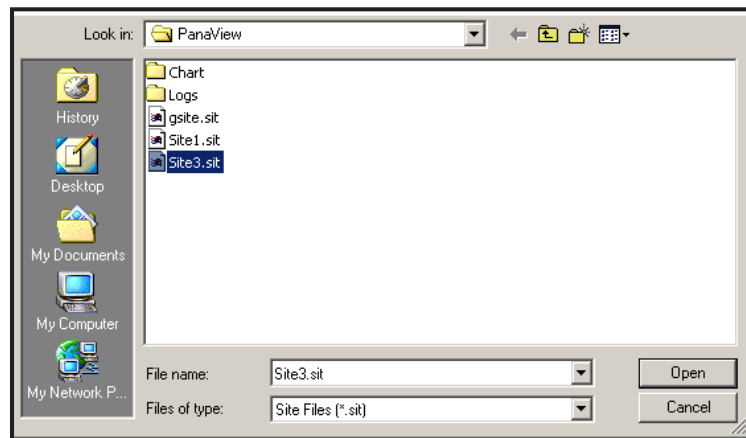
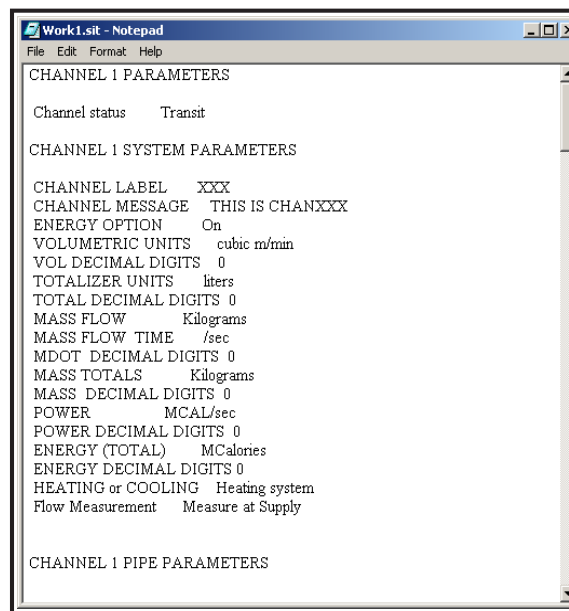

Figure 49: Site File Selection
Figure 51: Printout of Site File
- Then click on the [Save Site to Meter] button. A screen opens similar to Figure 49.
3. The *Site File Selection* window (Figure 49 on page 123) opens. Highlight a site file with the desired settings, and click [Open]. The site file becomes the *Working* site in the meter with the desired settings.
2. Click [Save Site to PC]. A window opens similar to Figure 49 on page 123.
1. Highlight the site in the left pane. (See Figure 49 on page 123.)
3. The *Site File Selection* window (shown in Figure 49 on page 123) opens. Enter the desired site name (now with a .prt suffix) and click on [Save]. PanaView displays a text version of the site, as shown in Figure 51.